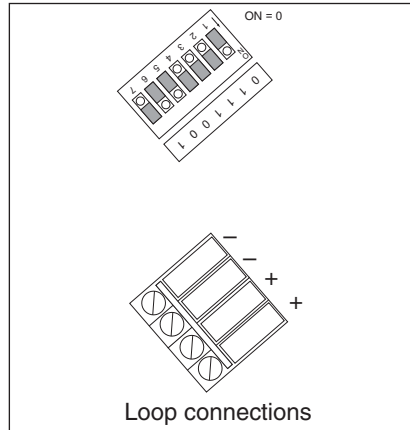

Fig 2 Terminal block connections and address 78 set
2. Run the cables into the backbox and connect them to the terminal blocks as shown in Fig 2. The backbox has a terminal for inter connecting cable screen/drain wire (if used). The cable screens (functional earth) should be connected to ground at one point only normally near the CIE in the safe area.
The switch in Fig 2 shows address setting 78 as an example of how to set the address